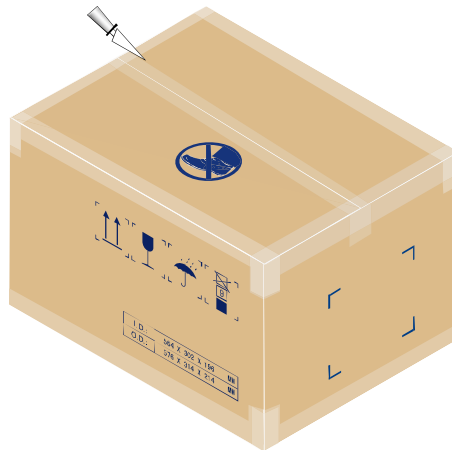

Figure 3-4 Unpacking the Carton
Step 1 Cut the strap along the seam of the carton cover using the paper knife. See Figure 3-4.